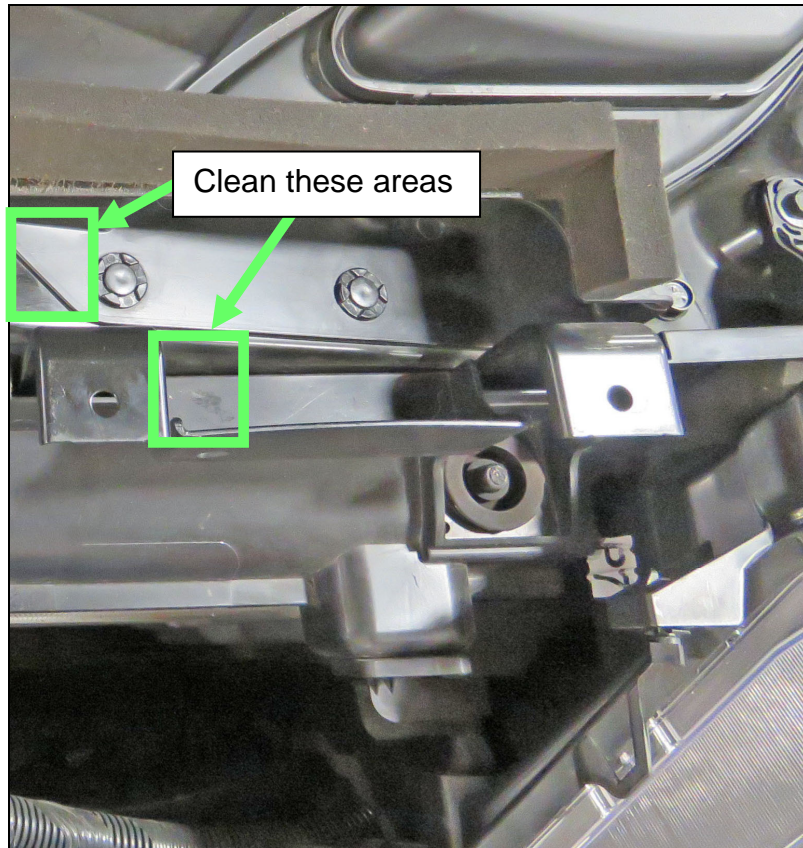

Figure 5
9. Clean the areas shown outlined in green in Figure 5 with 50% isopropyl alcohol or equivalent cleaner where foam block 2A and foam block 2B will be attached.